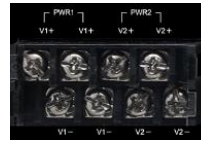

Figure 4
1. Insert the positive and negative wires into the **PWR1 (V1+, V1-)** and **PWR2 (V2+, V2-)** contacts on the terminal block connector. See *Figure 4*.